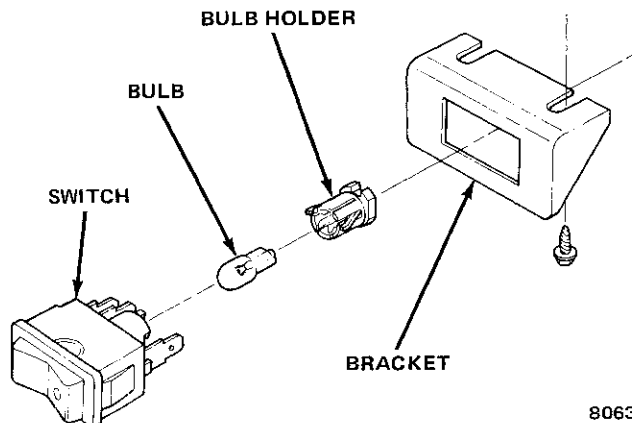

Fig. 3R-18 Off-Road Driving Lamp Switch Components
- (1) Disconnect electrical leads from switch and note or tag leads so they may be installed in the correct position.
- (2) Compress sides of switch body and remove switch from bracket (fig. 3R-18).